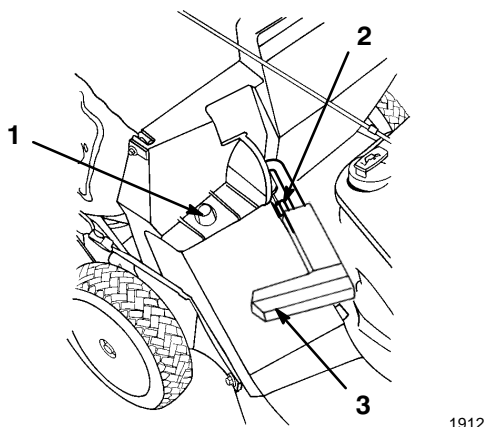

Figure 14
2. Make sure that the discharge door handle is fully forward and the pin is contacting the catch (Fig. 14).
3. Slide the hole in the bag frame onto the retaining post on the housing (Fig. 14).
2. Raise the discharge door handle and move it forward until the locking pin contacts the catch (Fig. 14).